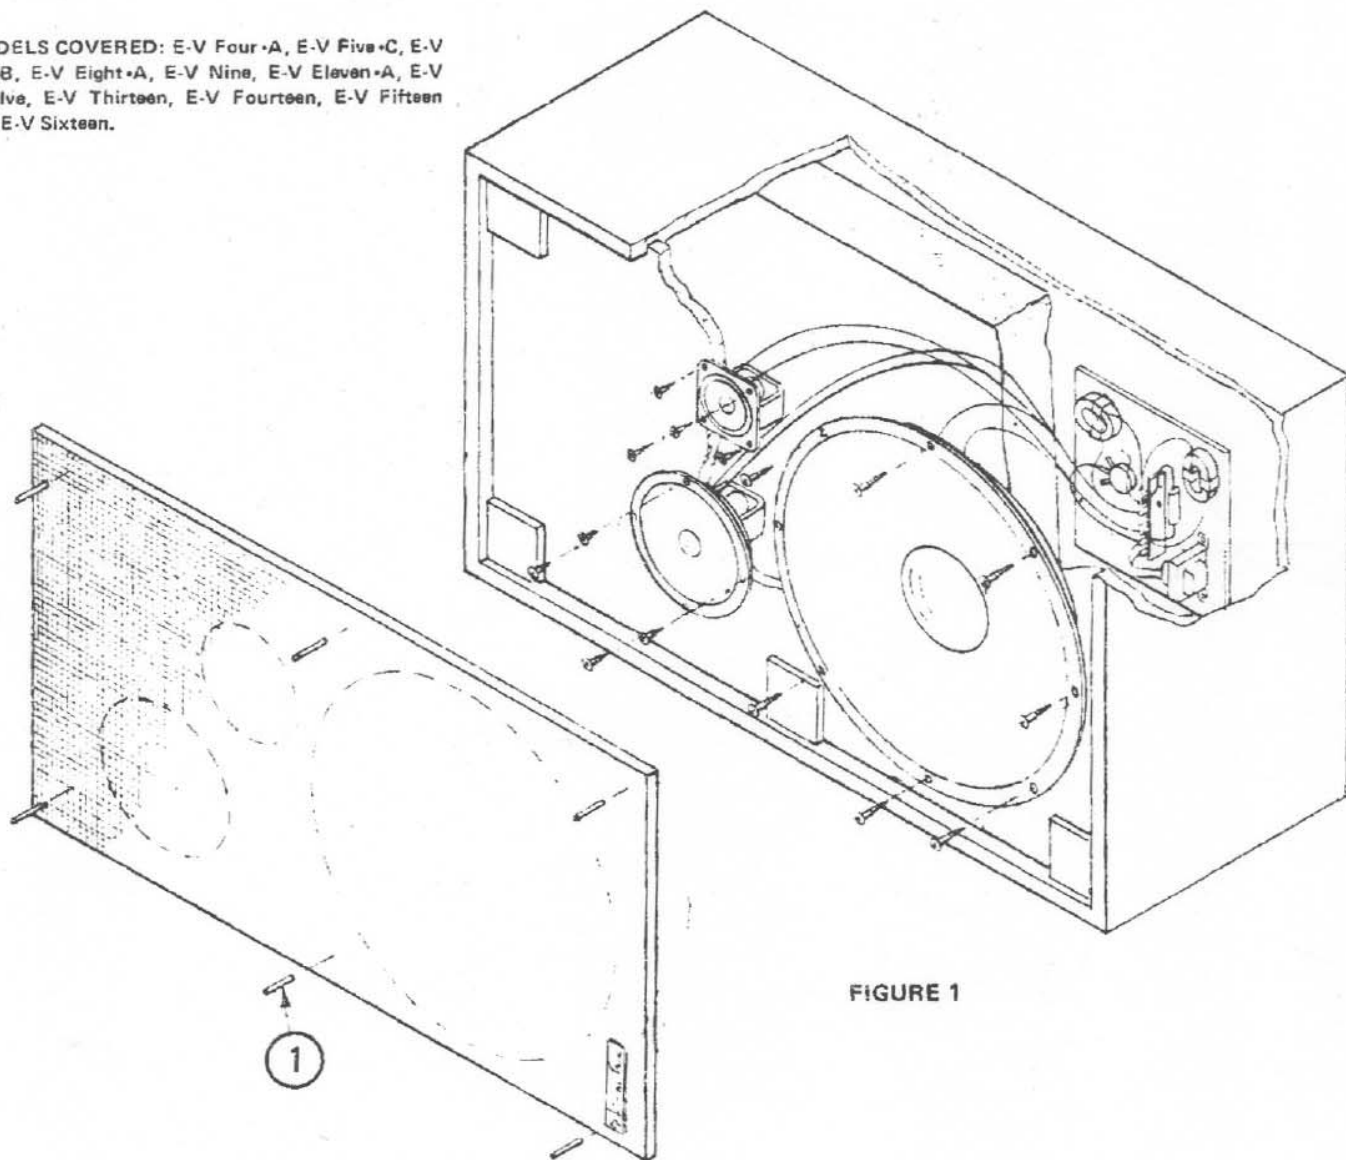

FIGURE 1
1. The Grille Assembly on all Electro-Voice front-loaded bookshelf speaker systems is secured with Spotnail Pins (1). Locate these pins in grille cloth web and carefully drive 3/4-inch into enclosure with small punch or nail (Figure 1). All models contain (6) six pins except E-V Eight-A, which contains (4) four pins. 1 1/4-inch should be sufficient to free the grille assembly from Spotnail Pins. Slight air leaks may develop if a pin punctures the inner enclosure space. The pins should be left in the enclosure if they are not to be reused. See Grille Cloth reassembly.)